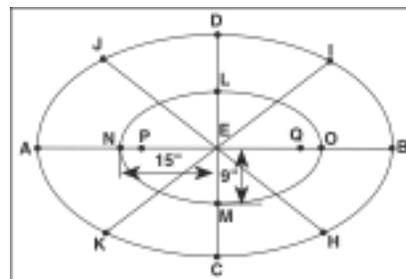

Fig. 4
4. Find midpoints H, I, J and K of each quarter of the ellipse with a pair of dividers. Locate points L, M, N and O midway on lines ED, EC, EA and EB. Use the length of line EO to mark points P and Q by measuring from O and draw the small ellipse (Fig. 4).